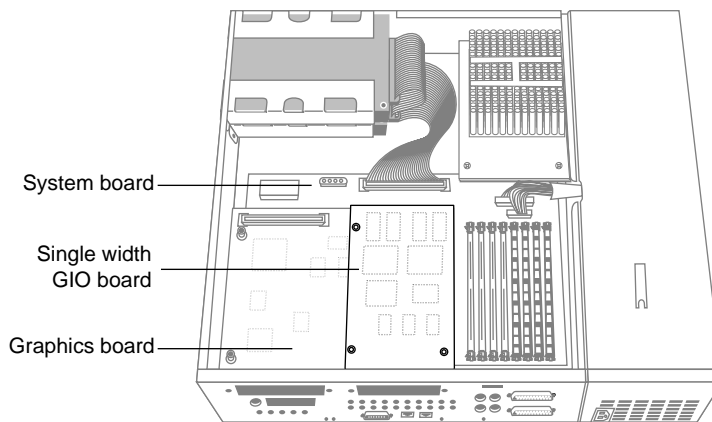

Figure 6 Locating the GIO option board
GIO option boards are installed on top of the graphics board. A single-width GIO option board covers half of the graphics board; a double-width covers the entire graphics board. Figure 6 shows a single-width board.
To determine if your workstation has a GIO option board installed, look at your workstation and at Figure 6. If there is a GIO option board installed, follow these steps to remove it. If there is no GIO option board installed, skip to “Removing the Graphics Board” on page 10.
1. Locate the GIO option board, as shown in Figure 6.